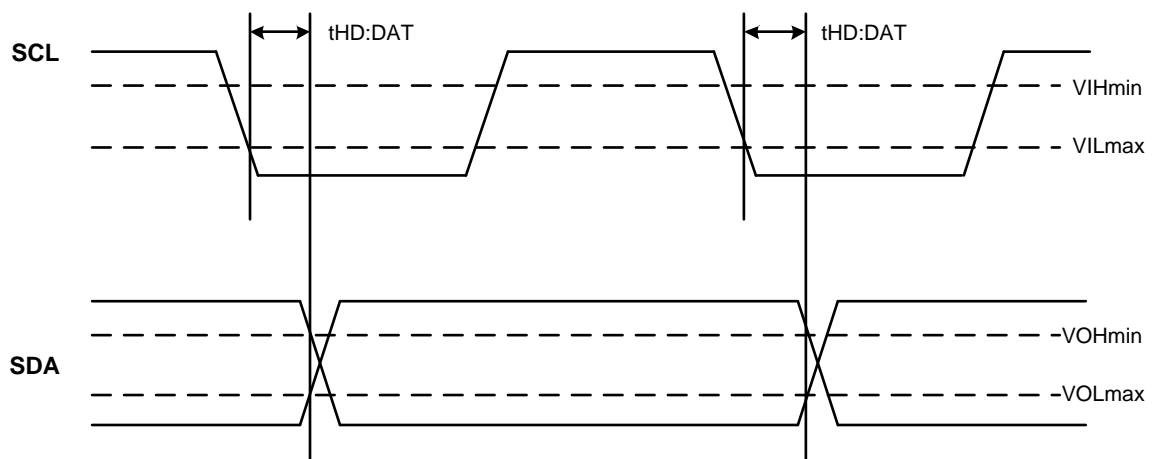
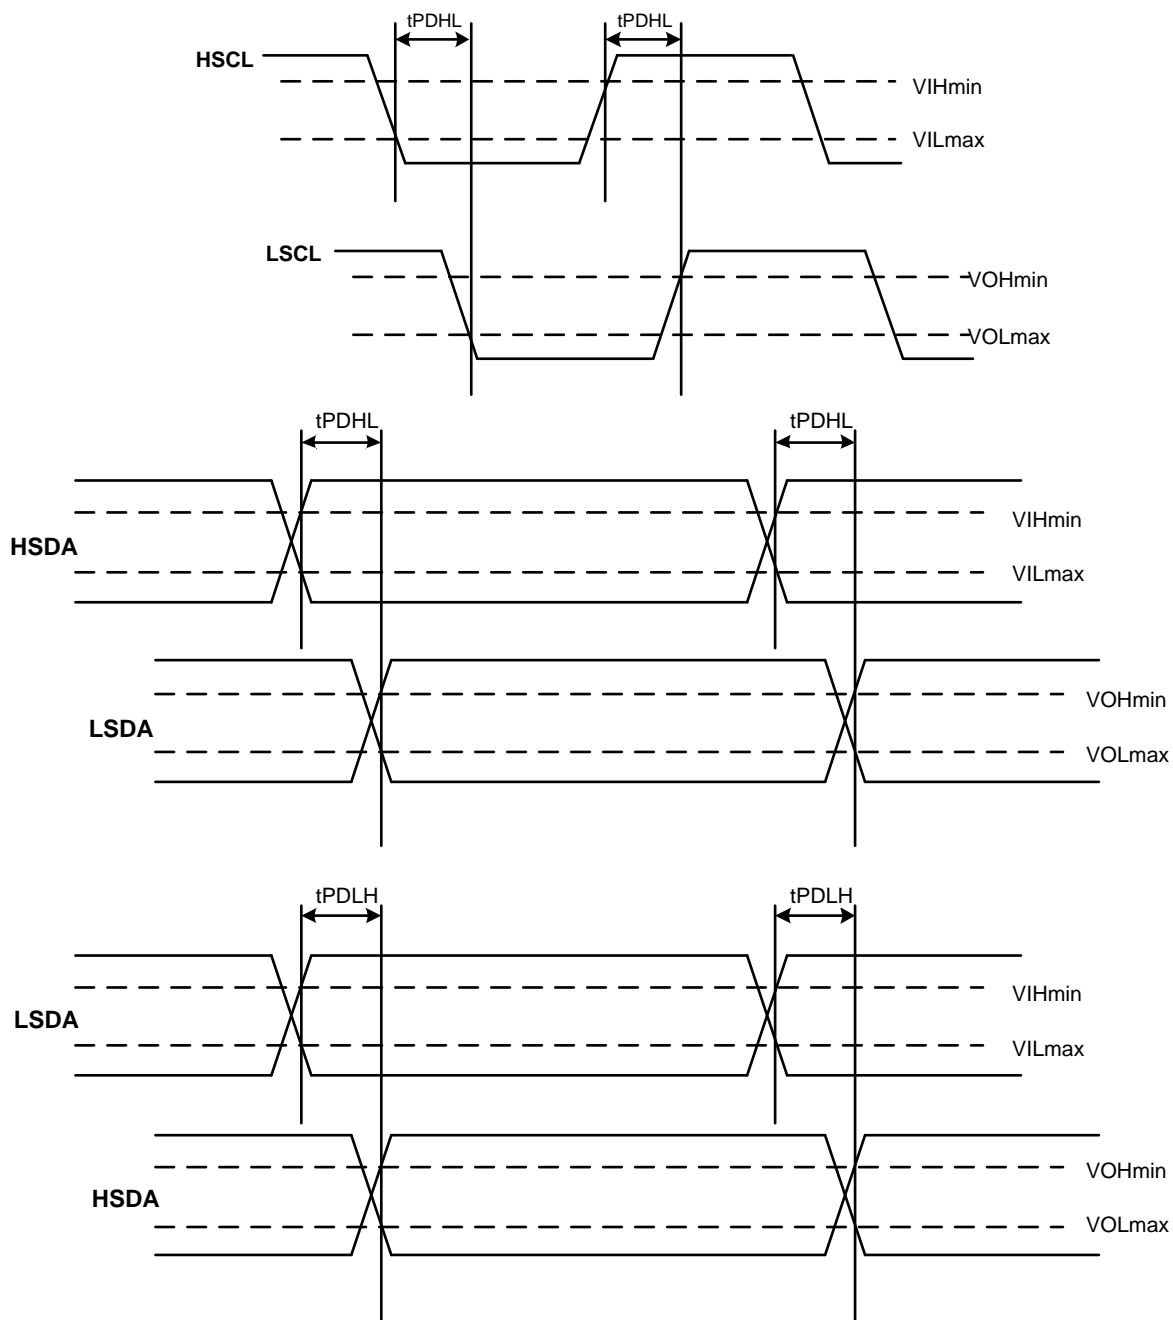

Figure 20. I²C Bus AC Data Output Timing Parameter Definition
Figure 27. Propagation Delay through the SPD5 Hub Device
3. Output slew rate is guaranteed by design and / or characterization. The output slew rate reference load is shown in Figure 20. I2C Bus AC Data Output Timing Parameter Definition
6. See Figure 27 for timing definition. See Figure 20. I2C Bus AC Data Output Timing Parameter Definition
11. for output timing parameter definition. See Figure 20. I2C Bus AC Data Output Timing Parameter Definition
13. The SPD5 Hub device must be configured in I3C Basic mode to guarantee t_{DOFFT} value. See Figure 8. See Figure 20. I2C Bus AC Data Output Timing Parameter Definition
16. See Figure 20. I2C Bus AC Data Output Timing Parameter Definition